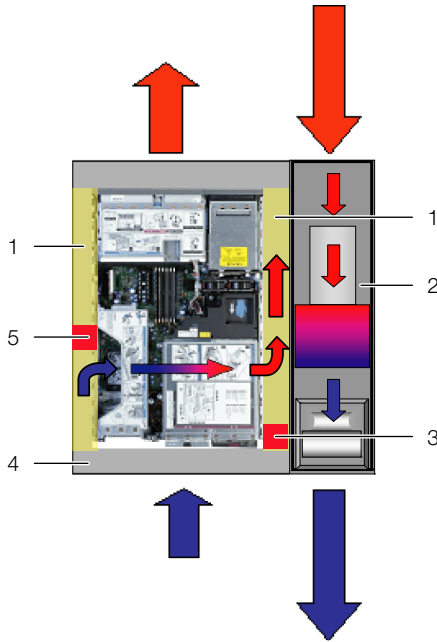

Fig. 14: Placement of foam strips for devices with sideways air throughput (top view)
- If several devices which require sideways air throughput are included, cut out several pieces of the foam strip, as is appropriate, so that, ultimately, there is a cut-out in the foam to the left or right at the height of each such device in the server rack. Ensure that there are no gaps on the hot air side of the devices (fig. 14, item 3).
- Attach the foam strips to the cold air side of the devices set back towards the rear (fig. 14, item 5), making sure that all fans built into the devices can draw air and that none of them are blocked.
The foam strips can be attached between the front and rear uprights of the server rack along the entire depth of the devices with sideways air throughput (fig. 14, item 1).